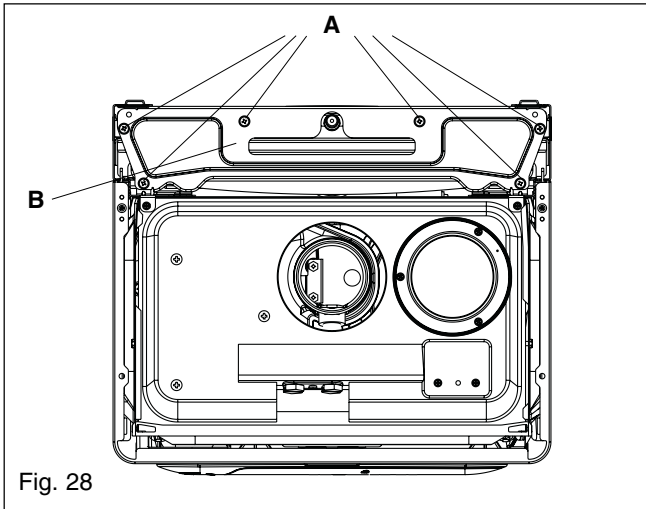

Fig. 28
Disconnect the flexible expansion pipe from the vessel. Locate and remove the four screws (A) that secure the vessel top holding plate (B), remove the plate (fig. 28). The expansion vessel can now be removed. Replace in the reverse order. Ensure all seals are in good condition, taking care to ensure they are replaced correctly.
Locate and remove the 4-screws that secure the vessel (see fig. 28). The expansion vessel can now be removed. Replace in the reverse order. Take extreme care when refitting the wiring to the air chamber. Ensure all seals are in good condition, taking care to ensure they are replaced correctly.